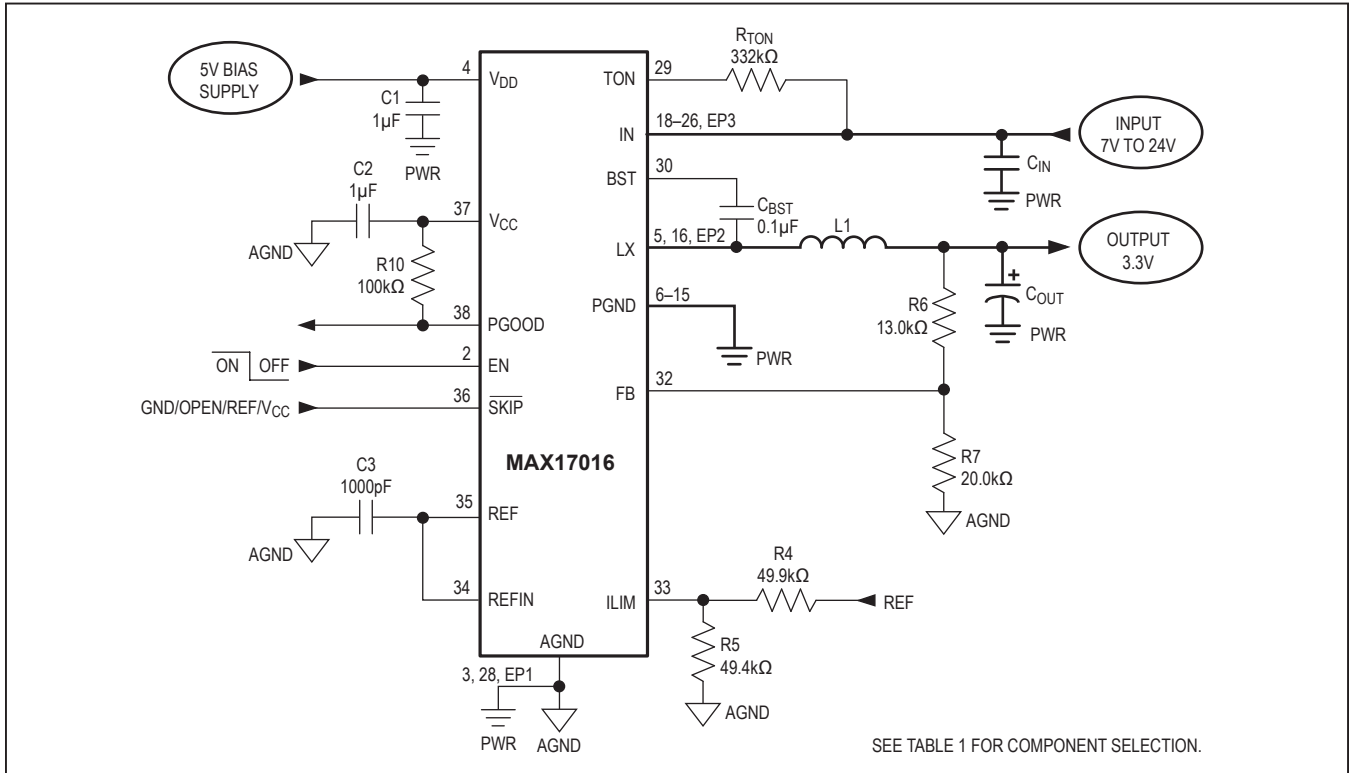

Figure 6. High Output-Voltage Application Using a Feedback Divider
Although REFIN is limited to a 0 to 2V range, the output-voltage range is unlimited since the MAX17016 utilizes a high-impedance feedback input (FB). By adding a resistive voltage-divider from the output to FB to analog ground (Figure 6), the MAX17016 supports output voltages above 2V. However, the controller also uses FB to determine the on-time, so the voltage-divider influences the actual switching frequency, as detailed in the *On-Time One-Shot* section.